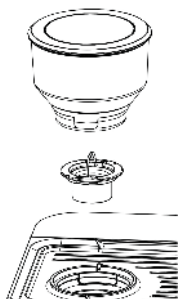
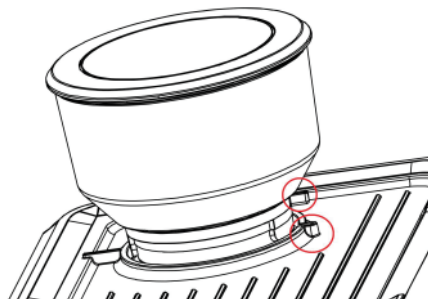

**Fig. 1:**
**Fig. 2:**
1. Before activating the grinding function, ensure that all required parts are correctly installed, referring to Fig. 1 and Fig. 2.
Install the Cutter Head and tighten it clockwise. Then, install the Bean Hopper and secure it as shown in Fig. 2.